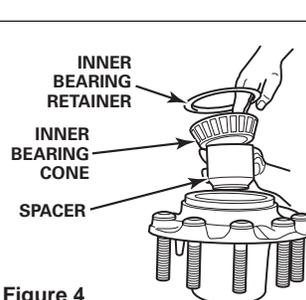

Figure 4
9. If present, remove and discard the inner bearing retainer. The stamped steel retainer secures the inner cone during shipment and has no purpose in service (see figure 4). Be careful not to damage the inner bearing and spacer during the removal process.